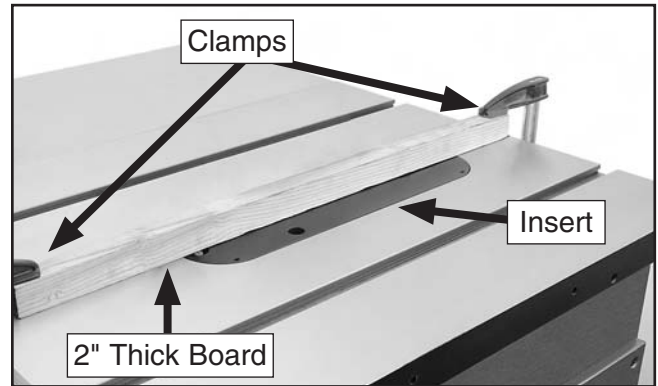

Figure 57. Securing insert with board and clamps.
5. Center a board at least 2" thick and equal to the length of the table over the rear opening of the insert, then secure it with clamps at both ends, as shown in **Figure 57**. This will provide extra support for the insert and reduce tear out when cutting.